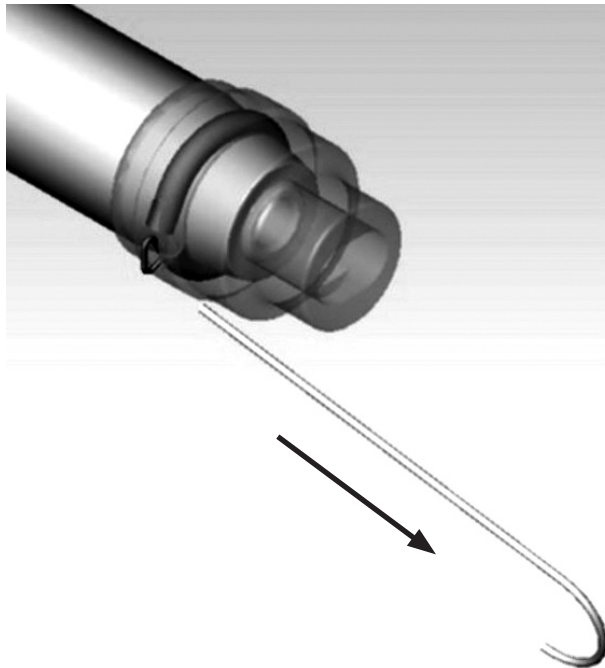

Fig. 1
2. As shown (see Fig. 1), using a wire or screw driver or simply your fingers to